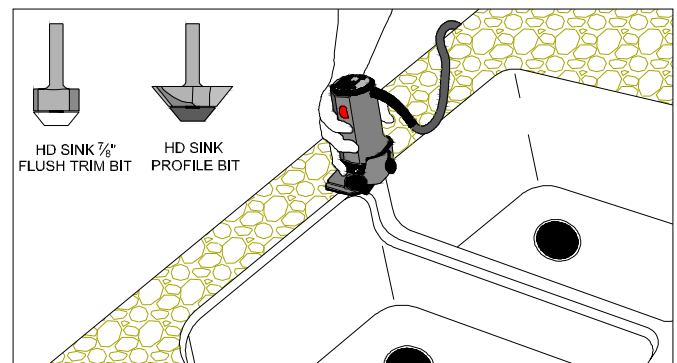

Figure 22C
- Use a laminate trim router with the bottom bearing flush trim bit and flush trim the overhanging laminate. (FIG. 22C)
- Use a laminate trim router with the sink profile bit, profile the edge of the laminate with the angle of the sink. (FIG. 22C)